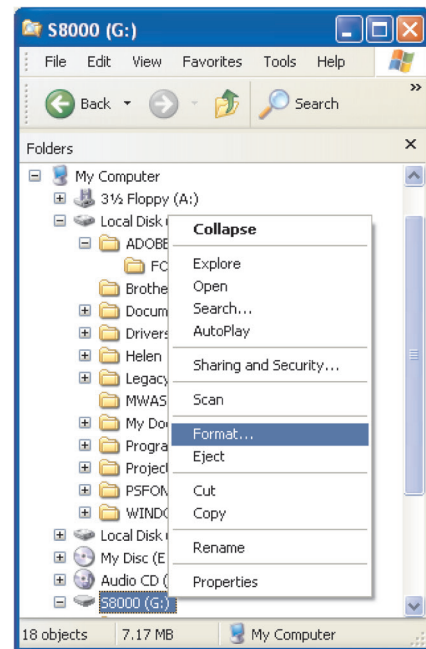

Figure 43 Select Format
2. Right click on the card icon and select **Format** from the pop-up menu (refer to *Figure 43*).